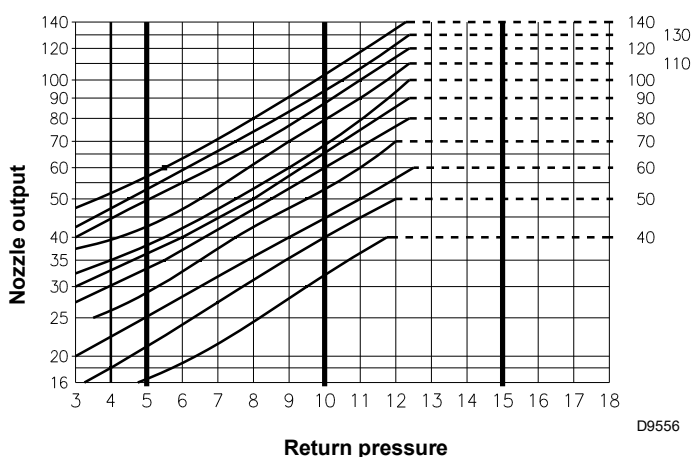
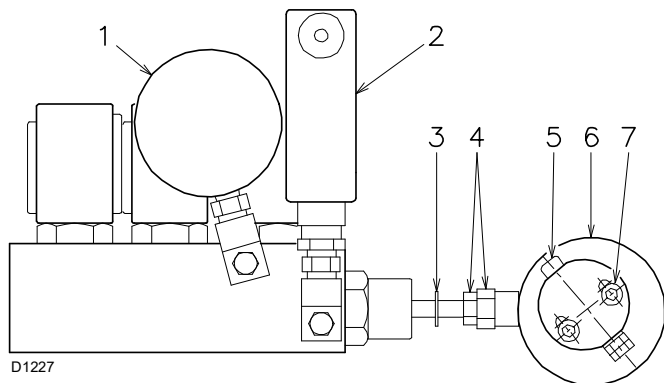

Fig. 26
Fig. 27
The diagram (Fig. 26) indicates this relation for Bergonzo type A2 nozzles with a 20 bar pump delivery pressure.
The value of the pressure on the return line of the nozzle is shown on the pressure gauge 1)(Fig. 27).
The return line pressure corrections are possible by changing the eccentric 6)(Fig. 27) and the nut with the lock nut 4)(Fig. 27).
- **Never drive the variator piston fully home: the stop ring 3)(Fig. 27) determines the maximum stroke.**
- **At the end of the adjustment, manually check, after unlocking the servomotor (refer to page 26), that between 0° and 130° there is no sticking and that the maximum and minimum pressures correspond to the one selected according the diagram (Fig. 26 page 24).**
The nozzle flow output is given in the diagram (Fig. 26 on page 24) in correspondence with the nozzle return line pressure, measured with the pressure gauge 1)(Fig. 27).